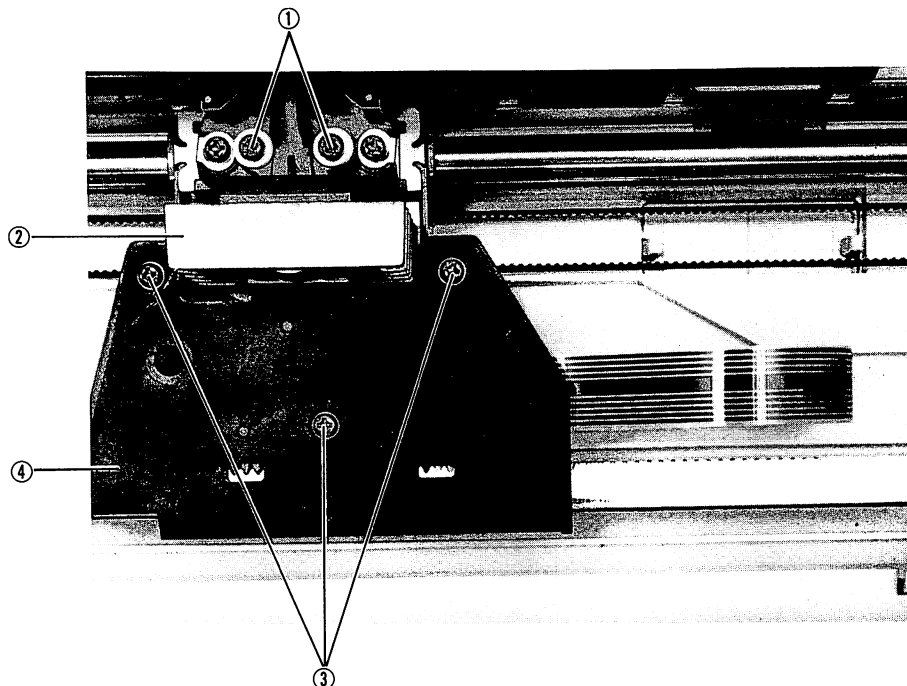

Fig. 4-6. Printhead and Head Cable Removal
4.2.6 Printhead Removal (Fig. 4-6)
4.2.7 Head Cable Removal (Figs. 4-6 and 4-7)
3. Remove three screws ③ from the carriage base and remove the base ④. (Refer to Fig. 4-6)
4. Remove screws ② from head cable ①.
5. Remove connector ③ of the head cable toward the front of the printer. Remove from dowel ④ of the carriage and lift.
6. Hold the plastic tabs on the head cable (marked with arrows) and pull to remove the cable from connector ⑤.